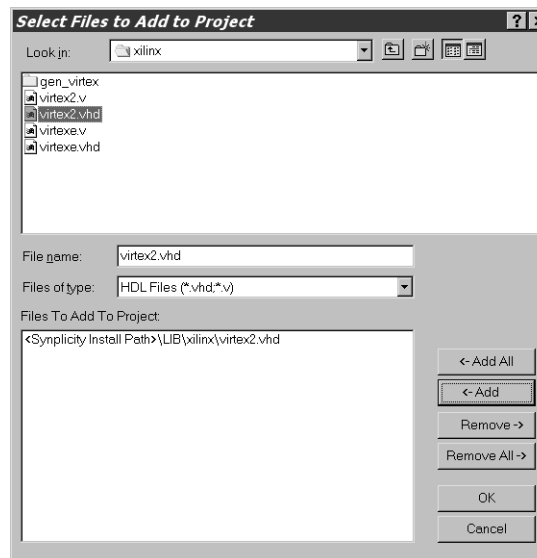

Figure 5-11: Files to Add (Virtex Library)
- Select the `virtex.vhd` file (Figure 5-11); then click Add to move the file into the Files To Add list.